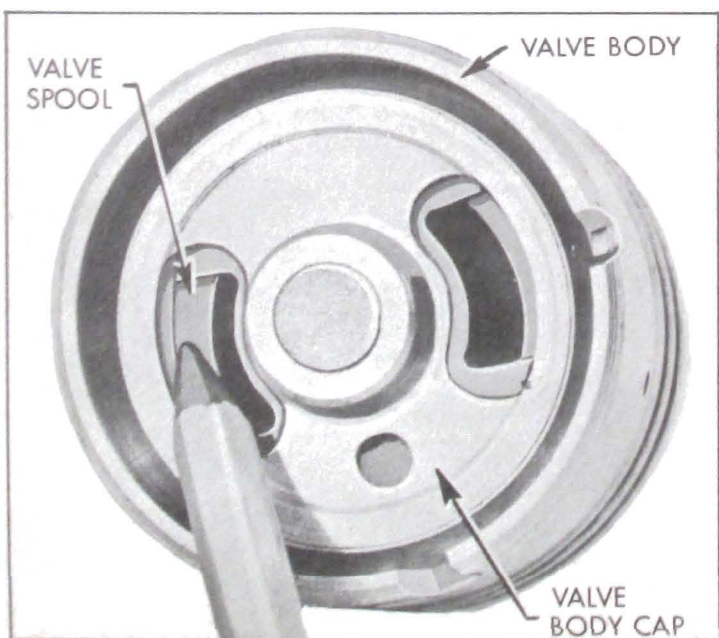
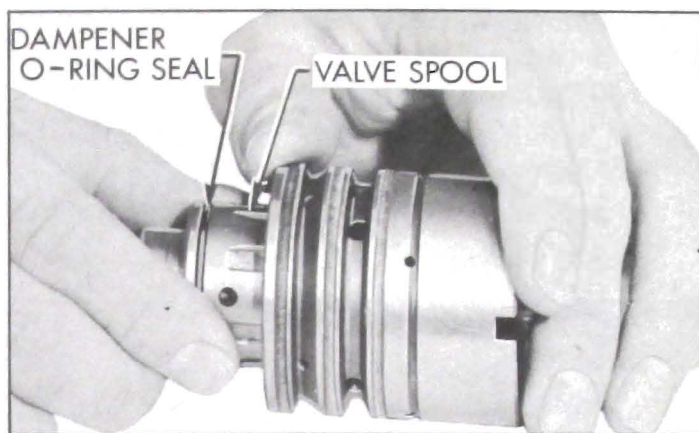

Figure 8-35—Separating Valve Spool From Valve Body
Figure 8-36—Withdrawing Valve Spool From Valve Body
3. Remove the valve spool by holding the valve assembly in one hand with the stub shaft pointing downward. Insert the end of a pencil of wood rod through the opening in the valve body cap and lightly push on the valve spool until it is far enough out of the valve body to be withdrawn. See Figure 8-35. Withdraw the spool with a steady rotating pull to prevent jamming. See Figure 8-36. If slight sticking occurs, make a gentle attempt to reverse the withdrawal procedure. If this does not free spool, it has become cocked in the valve body bore. Do not attempt to force the spool in or out if it becomes cocked, but continue with the following step.